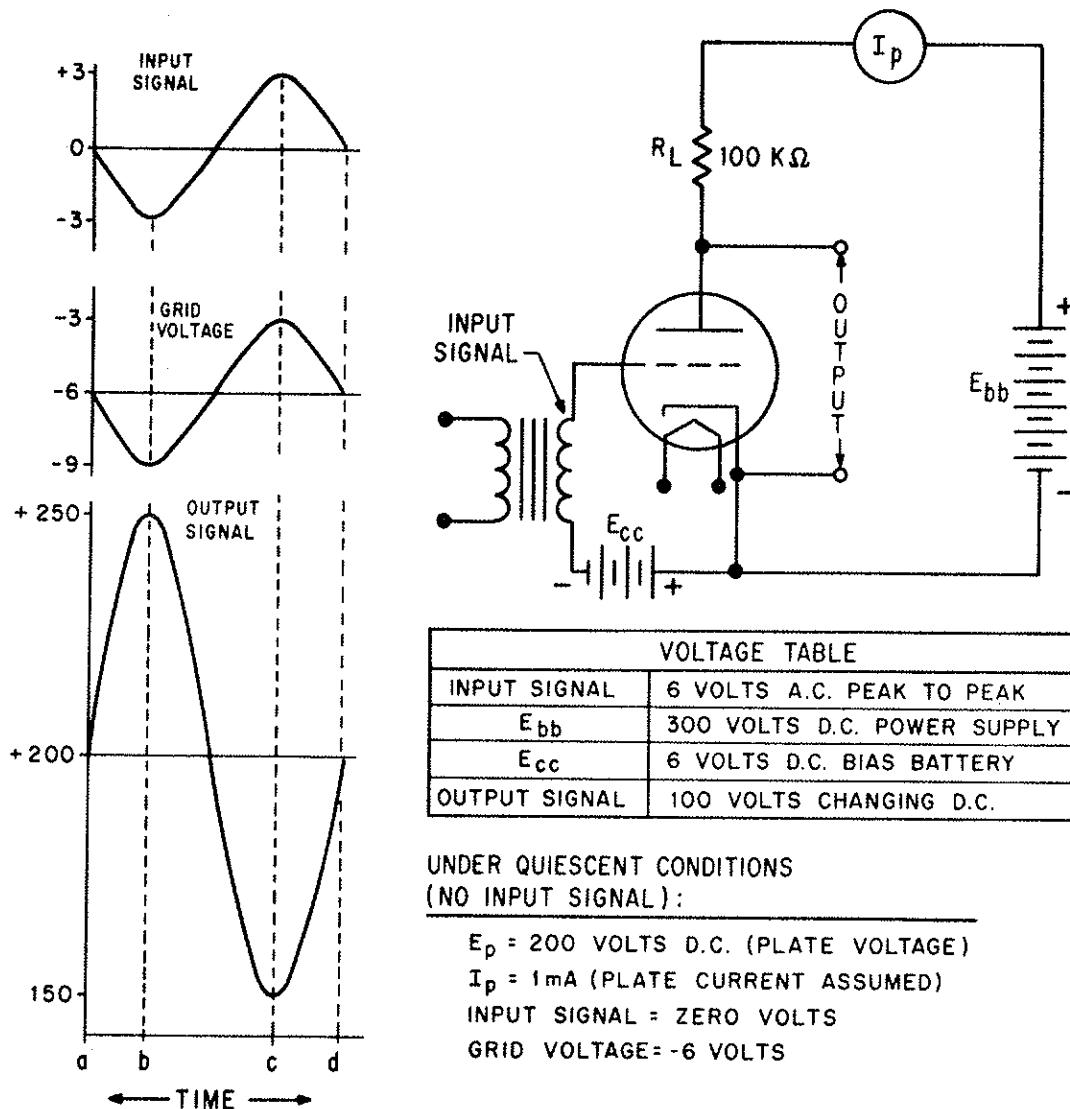

Figure 1-19.—Triode operation.
The circuit in figure 1-19 brings together all of the essential components of a triode amplifier. Before analyzing the circuit, however, the term QUIESCENT needs to be defined.
Simply, quiescent describes circuit conditions when the tube is not amplifying. The tube has no output signal and is in a kind of standby, waiting condition. Now let's go on to figure 1-19. With no input signal, under quiescent conditions, assume that 1 milliampere of current flows through the tube, cathode to plate. This current ( $I_p$ ) will flow through  $R_L$  (load resistor) to the positive terminal of the
These values are shown on the waveforms as time a in figure 1-19.
Before going on to the next section, there is one further thing you should be aware of. Look again at the waveforms of figure 1-19. Notice that the output voltage of the amplifier is 180° out of phase with the input voltage. You will find that this polarity inversion is a characteristic of any amplifier in which the input is placed on the control grid and the output is taken between the cathode and plate. This is normal and should not confuse you when you troubleshoot or work with this type of circuit.
**Q18.** A triode amplifier similar to the one shown in figure 1-19 has an  $E_{bb} = 350$  volts d.c. The plate-load resistor is  $50\text{ k}\Omega$ . Under quiescent conditions, 1.5 milliamperes of current conducts through the tube. What will be the plate voltage ( $E_p$ ) under quiescent conditions?